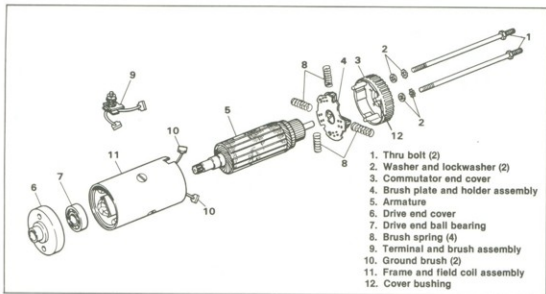

Figure 5-4. Starter Motor
DISASSEMBLY (Figure 5-4)
- Inspect the bearing (7, Figure 5-4). If it is worn or loose, replace it.
- Inspect the bushing in the commutator end cover (12, Figure 5-4) and the corresponding bearing surface of the armature shaft. If the bushing is worn, replace the commutator cover. If the armature shaft is worn, replace the armature.
- See Figure 5-4. Install the armature (5), bearing (7)